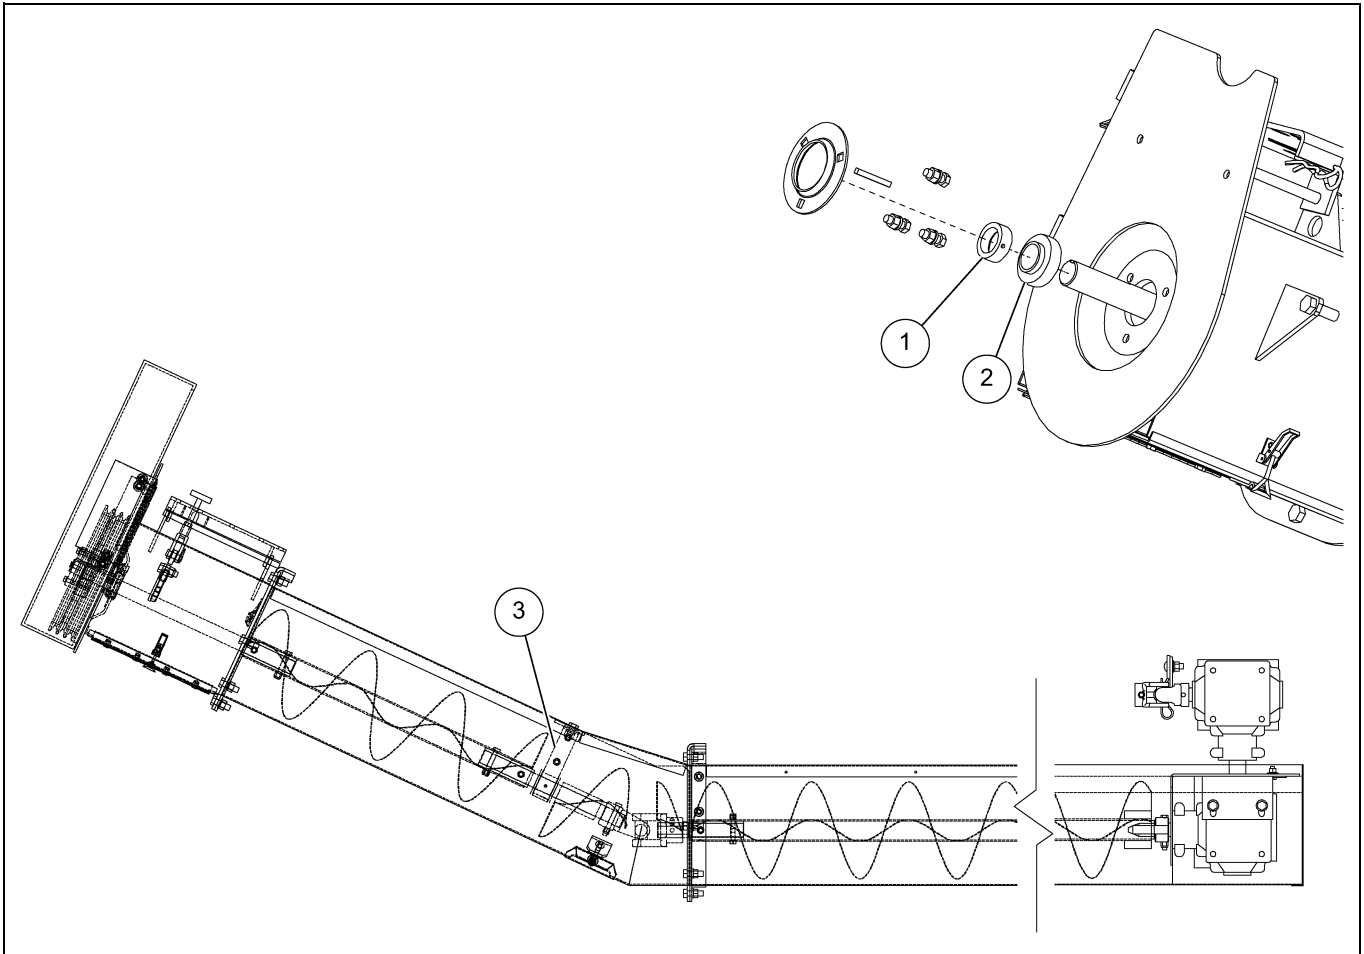

Figure 4AH
3. When installing the drive unit on the inline elbow ensure that the flight is adjusted so that the support bearing is centered in the flight gap. Slide the incline elbow flight up or down to set this adjustment. When incline elbows are used with heavy motors it is recommended to provide support back to the bin with cables (not provided). Support mount clips are provided. *(See Figures 4AH below and 4AI on Page 30.)*